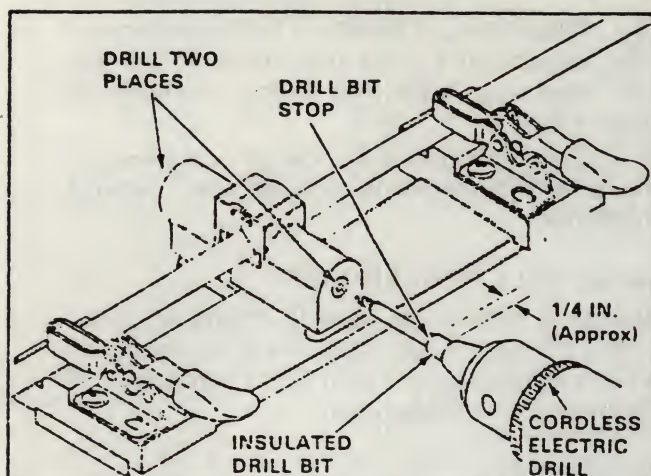

Fig. 7
5. Insert insulated drill bit into cordless electric drill and tighten chuck on insulation approximately 1/4 in. from end of stop. See Figure 7.
6. Insert bit into locating hole and drill through cable until bit stop bottoms on hole. Repeat this procedure on the other side of drill block. See Figure 7.